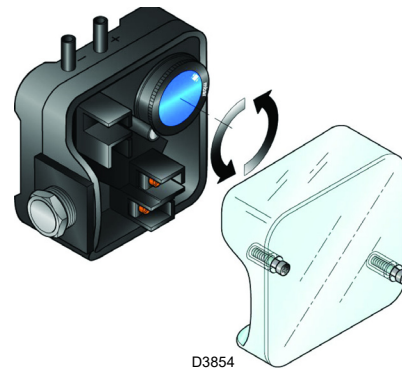

Fig. 26
- Adjust the air pressure switch to the start of the scale (Fig. 26).